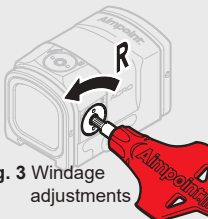
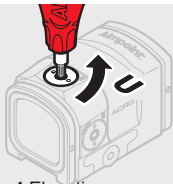

Fig. 3 Windage adjustments
Fig. 4 Elevation adjustments
- b Use the Torx T10 of the Aimpoint tool (8D) to turn the adjustment screws (6) (7).
- c Windage adjustments (see Fig. 3):
- Turn windage adjustment screw (6) counterclockwise to move point of impact to the right (R).
- Turn windage screw (6) clockwise to move point of impact to the left.
- d Elevation adjustments (see Fig. 4):
- Turn elevation adjustment screw (7) counterclockwise to move point of impact up (U).
- Turn elevation adjustment screw (7) clockwise to move point of impact down.
- f Ensure the sight is securely installed on the weapon and retighten the screw for the locking bar (5) if necessary.